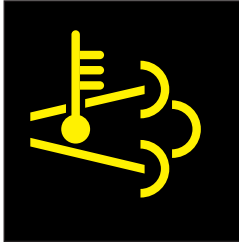
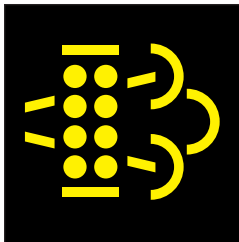

Figure 85. Exhaust Temperature High Indicator
Figure 86. Regeneration Required Indicator
This process will automatically occur every 30 minutes. Fuel will be injected into the exhaust stream to elevate the exhaust temperature. No operator action is required for this process. The Exhaust Temperature High indicator (Figure 85) will appear on both ECU-845/670 controllers.
The Regeneration Required indicator (Figure 86) will appear on the ECU-845/670 controllers indicating that Force Regeneration is required. At this point, perform the Force (Manual) Regeneration by following these steps.
- The regeneration process will start automatically, lasting for at least 30 minutes. The Exhaust Temperature High indicator (Figure 85) and Regeneration Needed Indicator (Figure 86) will appear on both ECU-845/670 controllers during the process and turns off when the regeneration process has been completed.